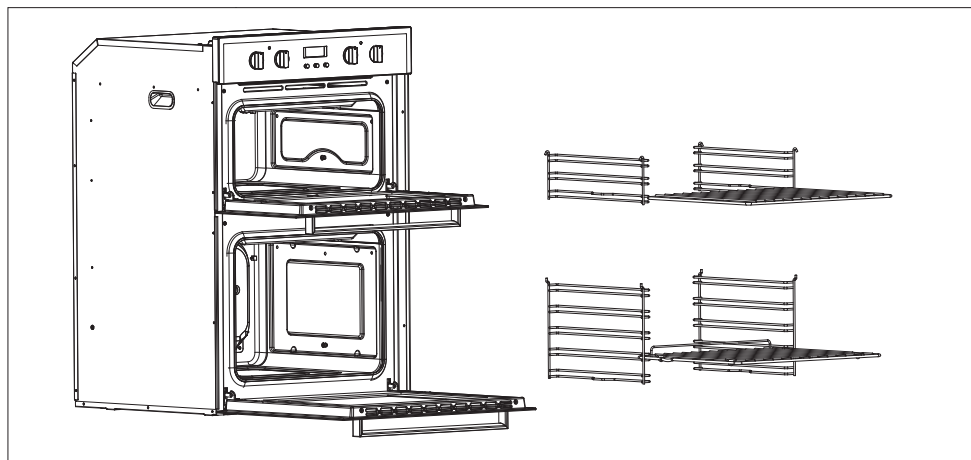

Figure 2.
- › Remove the side racks (see section below and Fig.2)